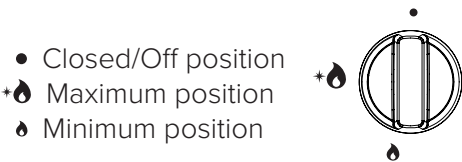

Fig.1
- 1. To light the hob, push down the appropriate knob and turn anti-clockwise to the large flame symbol (Fig.1).